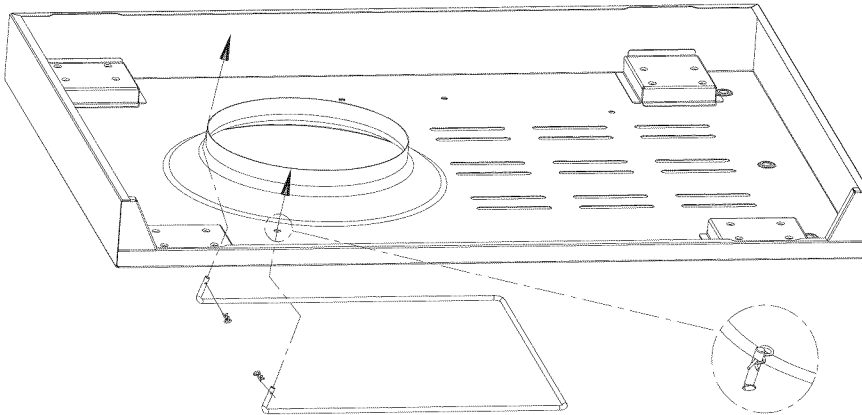

Fig. 1a
1. Attach the tank holder to the bottom shelf with two (2) cotter pins as shown in **Fig. 1a**.